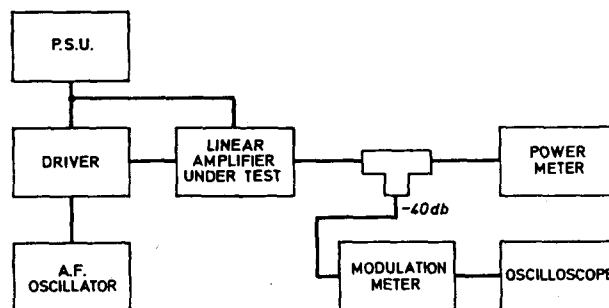

FIG. 3
- Connect equipment as shown in Fig.3. Switch off Amplifier.
Amplifier Test (Fig.3)